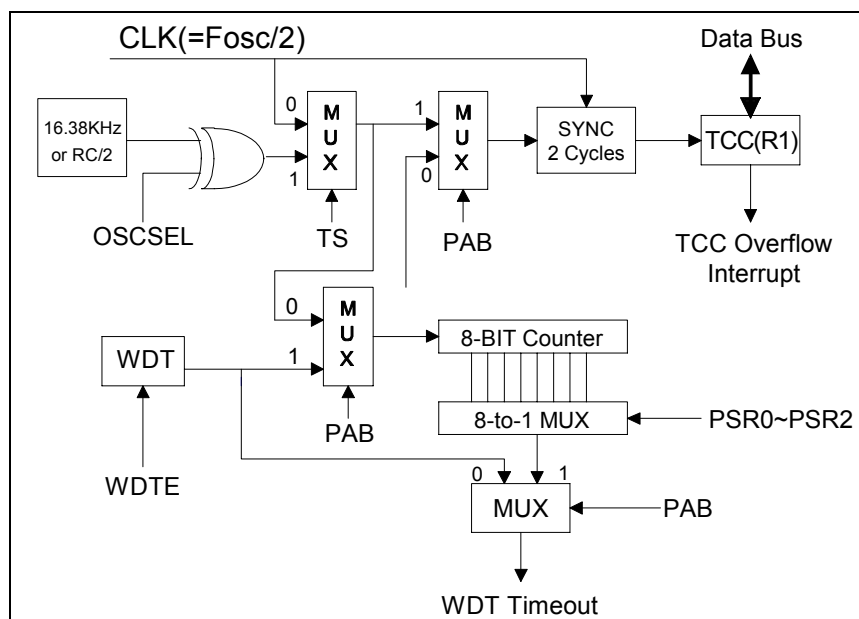

Fig. 9 TCC WDT Block Diagram
- The TCC/WDT circuit diagram is shown in Fig. 9 below.